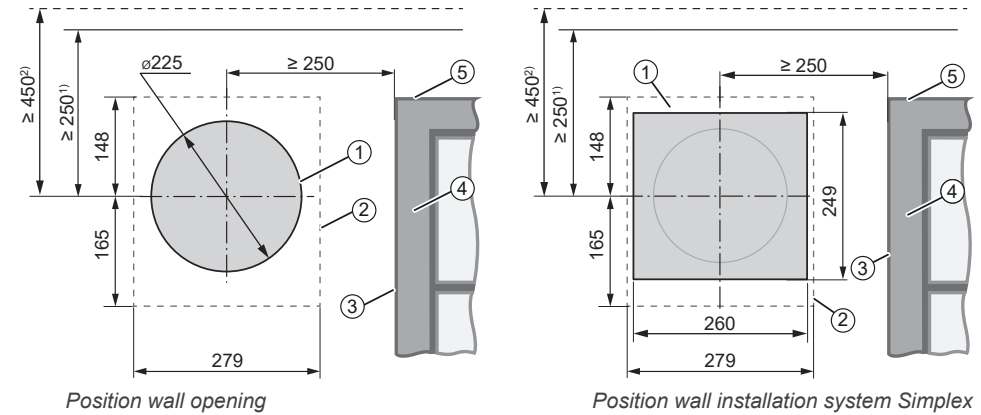

Figure 4: Dimensioned drawing wall opening iV-Twin+ (interior view)
- Wall opening (Fig. 4, left)
Wall installation system Simplex (Fig. 4, right)